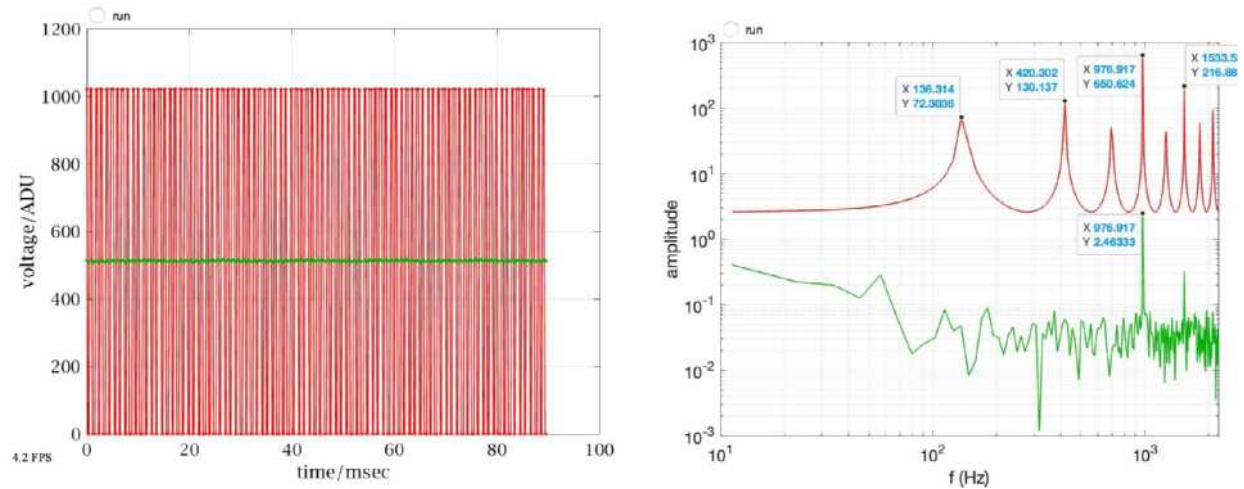
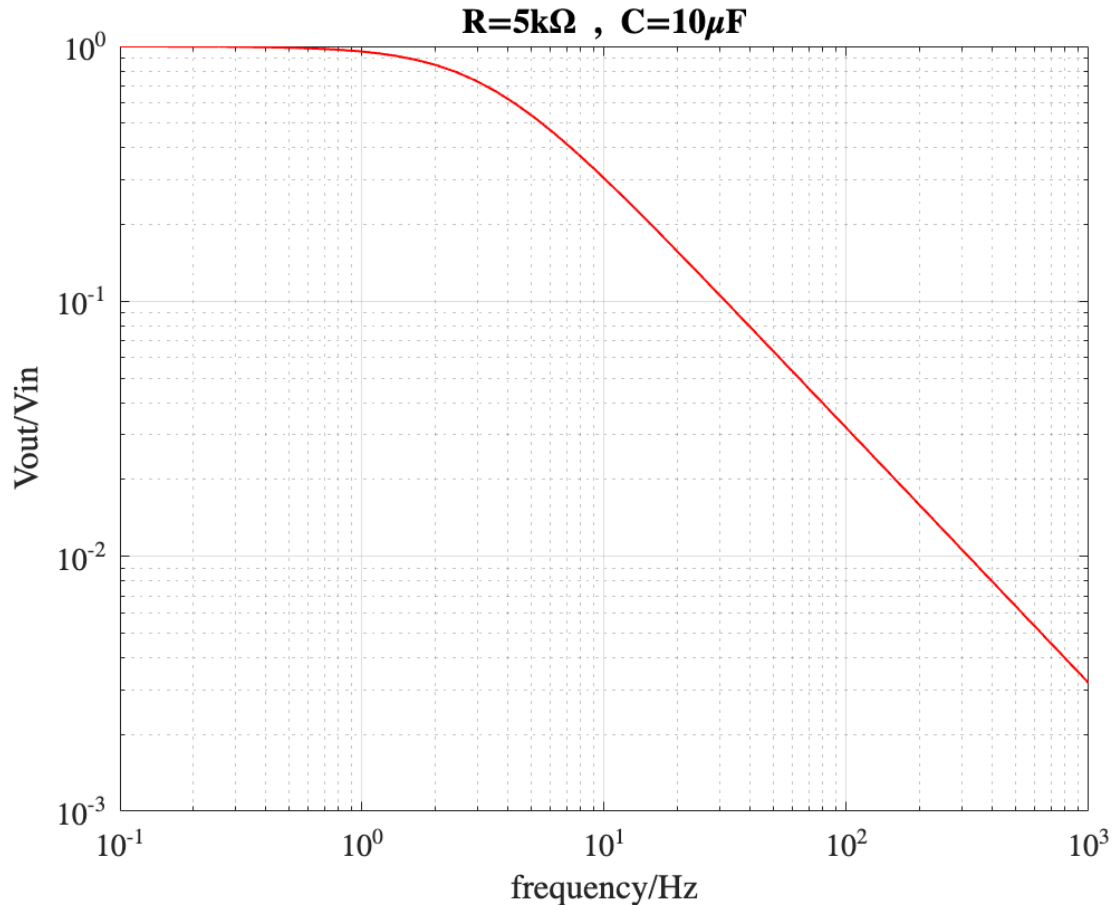

Figure 4. Time series and spectra for PWM = 128.
Figure 5. Modeled gain of our RC filter.
The RC filtered data (Fig. 4 green) has dc amplitude = 513.30 measured above, and *all* of its frequency components are < 1 ADU with the exception of the PWM frequency who's amplitude is 2.46ADU. So this filter exhibits gain at the PWM frequency of $2.46/651 = 3.78 \times 10^{-3}$ or an attenuation of 99.6%.
1. We can think of the curve (Fig. 5) as the "transfer function" of the RC circuit, where $V_{out}/V_{in} = \text{gain}$. Since it's a passive circuit, the gain is always less than 1.
But we're still exploring the weeds, here's the *significance* of this model. Our RC filter model predicts gain at the PWM frequency, 976Hz $\sim 3.5\text{e-}3$ from the far right side of Fig. 5, *very* close to what was measured by the ratio of the two 976Hz peaks in Fig. 4 ($3.78\text{e-}3$).
But back to practicality, we have a fundamental conflict between a filter that settles quickly and one that attenuates the PWM frequency deeply. Moving Fig. 5 left improves PWM attenuation but makes settling slower, and visa versa ... what to do?
What we really need to do is change the *slope* of Fig. 5 – but how? By cascading two RC low pass filters in series, as in Fig. 7.